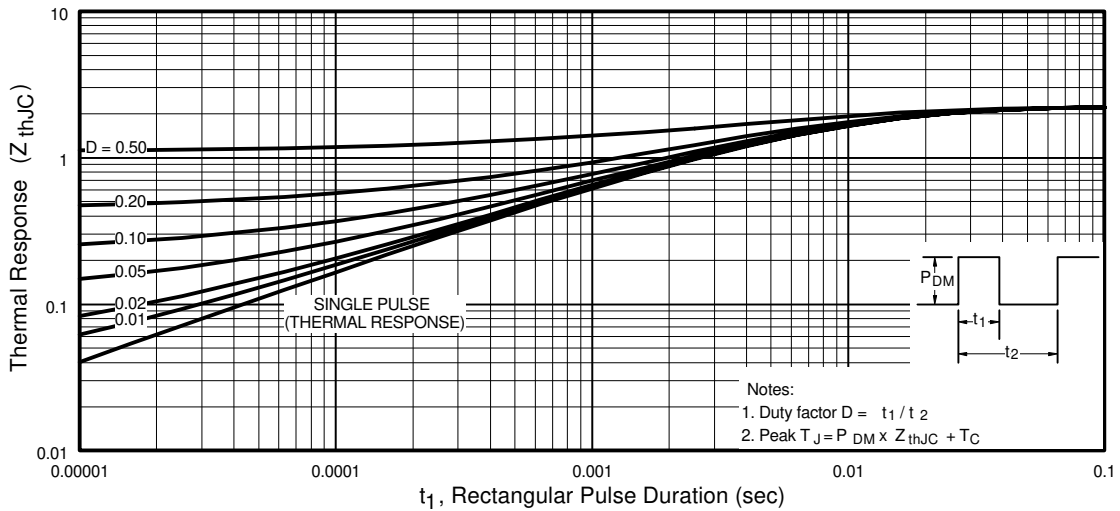

Fig 11. Maximum Effective Transient Thermal Impedance, Junction-to-Case
- ① Repetitive rating; pulse width limited by max. junction temperature. (See fig. 11)
- ② V_{DD} = 15V, starting T_J = 25°C, L = 470μH